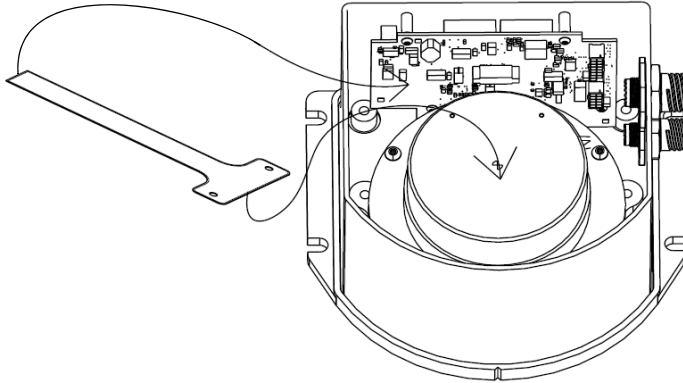

Figure 27: Attach Flex Cable
1. Attach the flex cable to the HG1700 sensor ensuring that all the pins are fully connected. Check also that the pins are fully seated and that the flex cable stiffener around the pins is not bent upward, see *Figure 27*.
3. Connect the opposite end of the flex cable to the corresponding connector on the IMU card ensuring that the contacts on the flex cable mate with the contacts on the connector, *Figure 27*.